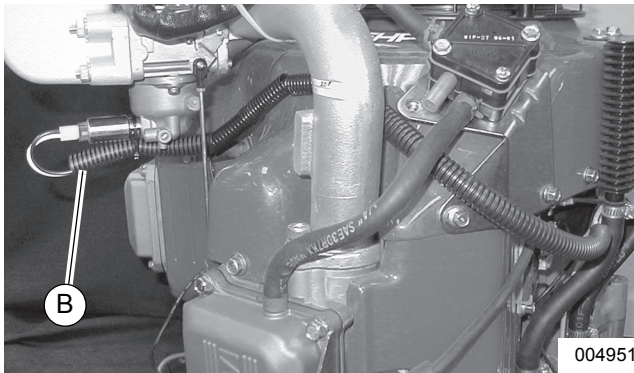
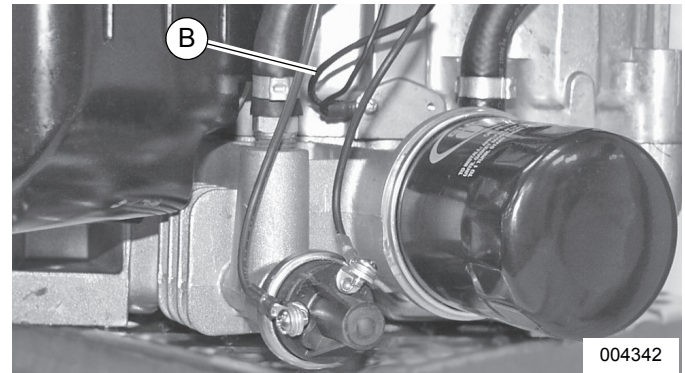

Figure 8-9. Wire Harness Routing—Horizontal Shaft
Figure 8-10. Wire Harness Routing—Vertical Shaft
Figure 8-9 and Figure 8-10 illustrate proper wire harness routing and connections. On horizontal shaft engines, use a cable tie to fasten wiring harness (B) to fuel solenoid. On vertical shaft engines, route wiring harness above fuel solenoid.